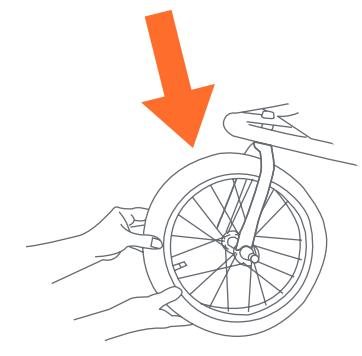

Fig. 20
- 20) • Lift front end of the stroller up and pull down on wheel to ensure its attached (Fig. 20). The wheel should not be loose or come off.